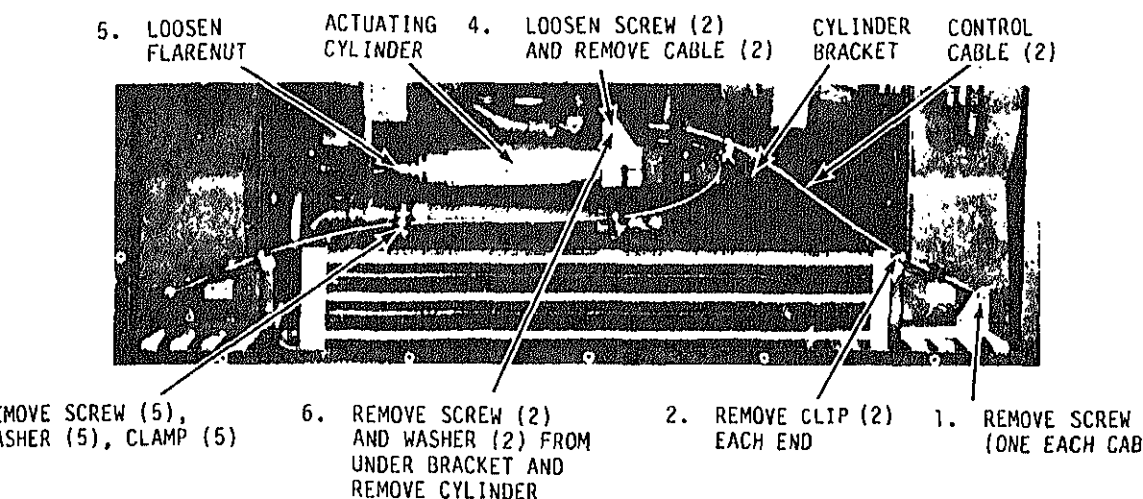
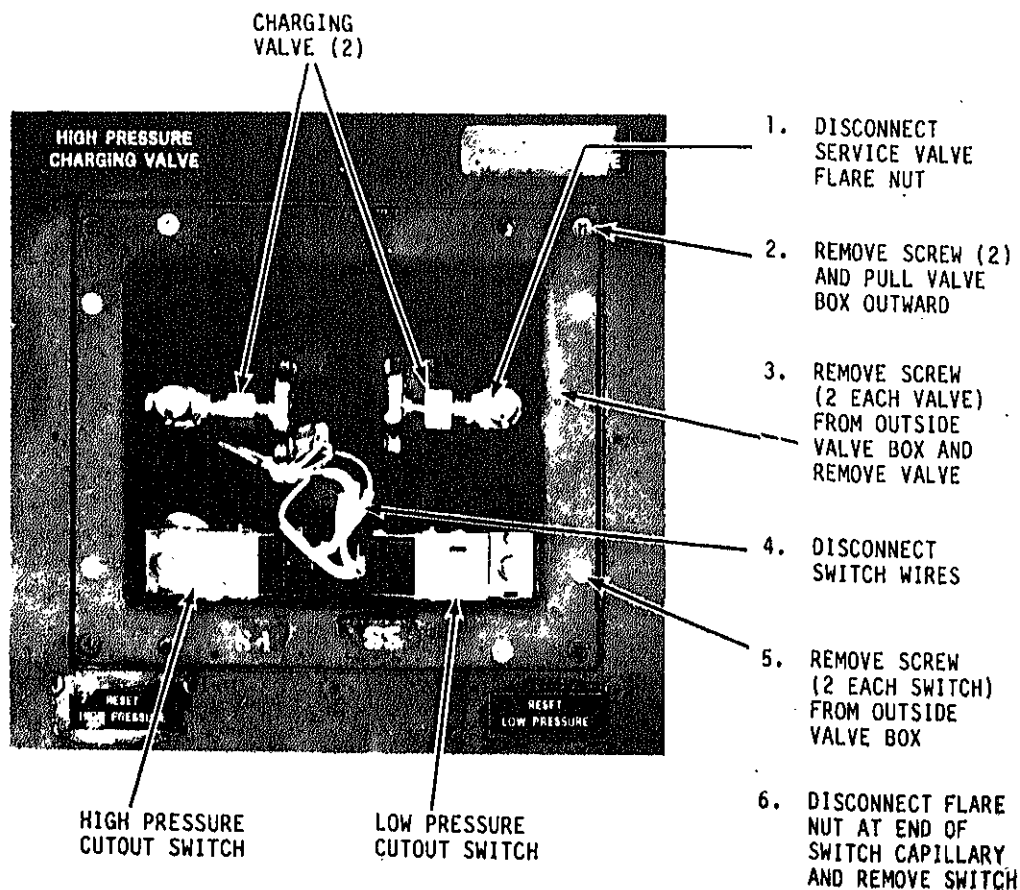

Figure 5-5. Condenser louver control, removal and installation
Figure 5-6. Service valves, high and low pressure cutout switches, removal and installation
(3) Refer to figure 5-5 and loosen mechanical post screws at each end of control wire.
(4) Remove screw, lockwasher and loop clamp.
(5) Remove push-pull control assembly clips at each end and remove push-pull control.
(6) Disconnect flare nut from actuator cylinder.
(7) Remove two nuts and lockwashers from bracket and remove actuator cylinder. If cylinder is to be replaced, remove rivets and retain push-pull control assembly brackets.
(1) Reinstall push-pull control assembly brackets on replacement cylinder.
(2) Install actuator cylinder (figure 5-5) with studs through openings in bracket. Install lockwashers and nuts on studs.
(3) Connect flare nut.
(4) Install push-pull control. Install outer control casing clips over bracket and insert wire ends into openings in mechanical posts on louver lever and actuator cylinders.
(5) Install push-pull control clips on louver control in position. Install clamp, screw, and lockwashers.
(6) Adjust control as described in figure 5-6.
(3) Refer to figure 5-6 and disconnect the service valve flare nuts.
(4) Remove four screws and pull charging valve box outward as allowed by the cutout switch wiring and capillary tubes. Take care not to damage the capillary tubes.
(5) Remove service valve by removing mounting screws on side of charging valve box.
(1) Refer to figure 5-6 and mount service valve in charging valve box.
(2) Place charging valve box in position and attach to housing.
(3) Attach refrigerant line flare nut to service valve.
(3) Refer to paragraph 5-21 and disconnect the service valve flare nut.
(4) Remove four screws and pull charging valve box outward as allowed by wiring and capillary tubes. Take care not to damage the capillary tubes.
(5) Refer to figure 5-6 and disconnect the pressure cutout switch electrical leads.
(6) Remove pressure cutout switch mounting screws on side of charging valve box.
(1) Refer to figure 5-6 and in-